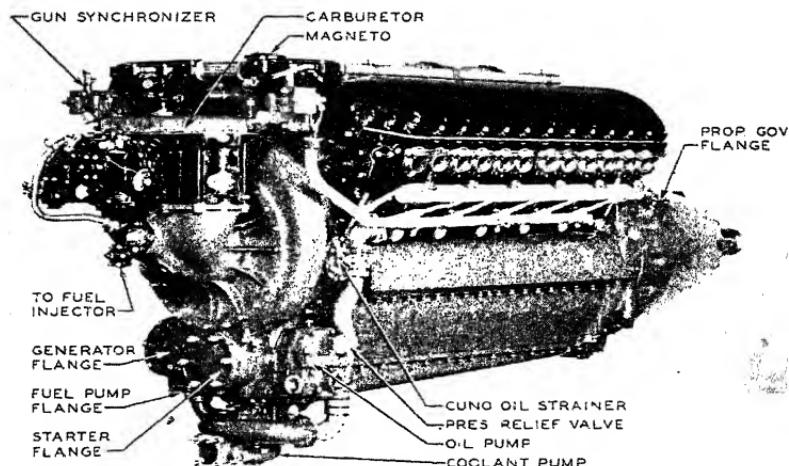

FIG. 2.—Right side of Allison V-1710 engine, showing location of accessories.
**Gun Synchronizers.**—Both Figs. 2 and 3 show the location of the magnetos and gun synchronizer. The speed of the synchronizer is half that of the crankshaft. It can be timed in increments of 0.71 deg. without dismounting it from the engine, by removing the cover plate in front of the plunger locking pin and *loosening* the nut on the cam drive shaft. *Do not remove the nut;* merely back it off three or four turns. With the propeller set at the desired position for firing, turn the synchronizer cam to proper position, tighten the nut, and replace the cover. A single-lobe cam is